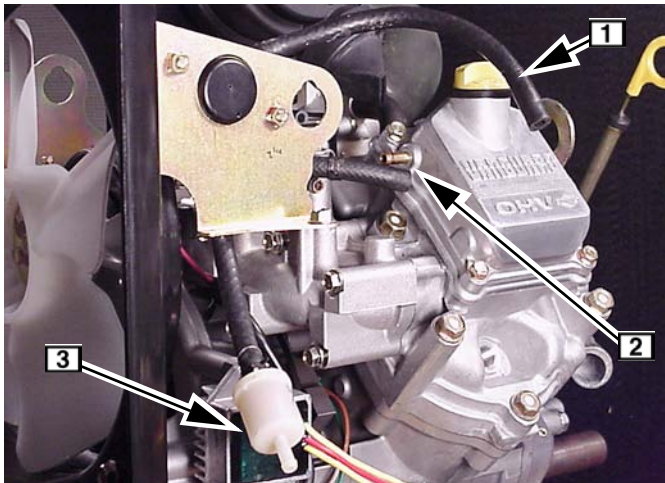

Fig. 37
1. Disconnect fuel line from pump to carburetor **1**, fuel pump pulse line at valve cover **2**, and fuel inlet line at fuel filter **3**, Fig. 37.